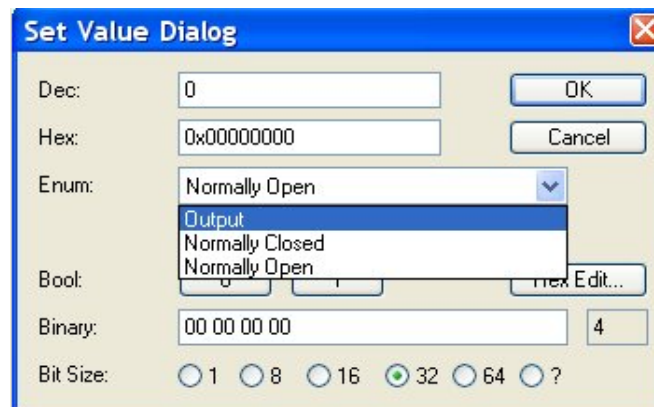

Fig. 21 Setting the parameter to output
- ➔ Set the parameter(s) to output (see Fig. 21).